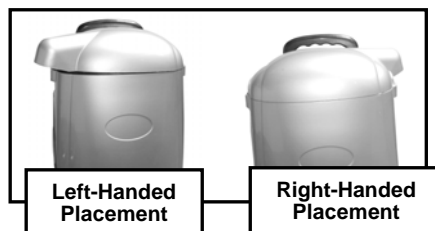

Fig. 5
8. The canister lid can be replaced on the unit with the hose opening on the right or left, as per your preference. (Fig. 5)